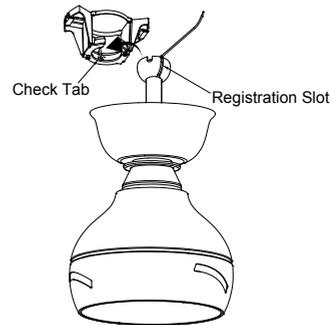

Fig. 8
**Step 5.** Now lift the motor assembly into position and place the hanger ball into the hanger bracket. Rotate until "Check Tab" has dropped into the "Registration Slot" and seats firmly. (Fig. 8) The entire motor assembly should not rotate.